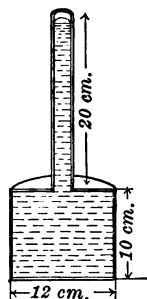

FIG. 57. — Box and tube full of water.
7. Figure 57 is a cylindrical tank 10 × 12 centimeters; out of the top rises a tube 20 centimeters long. The box and tube are filled with water.